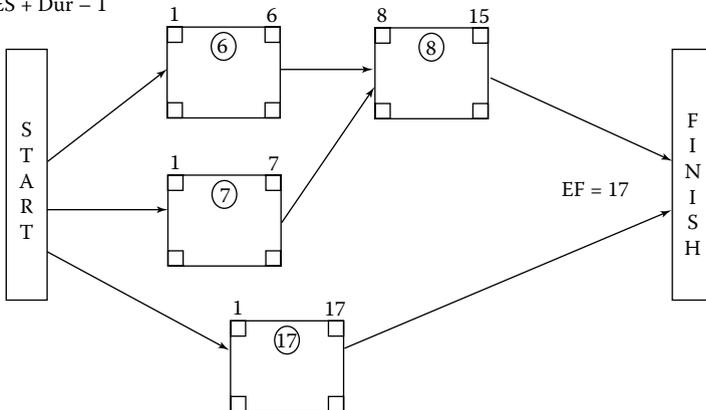

Figure 12.32 A more complicated diagram.
A more complicated diagram such as that in Figure 12.32 might help you better understand CPA. The final early finish date becomes the early finish date (17) for the Network (project). The forward pass calculates the earliest the activities can start and finish.